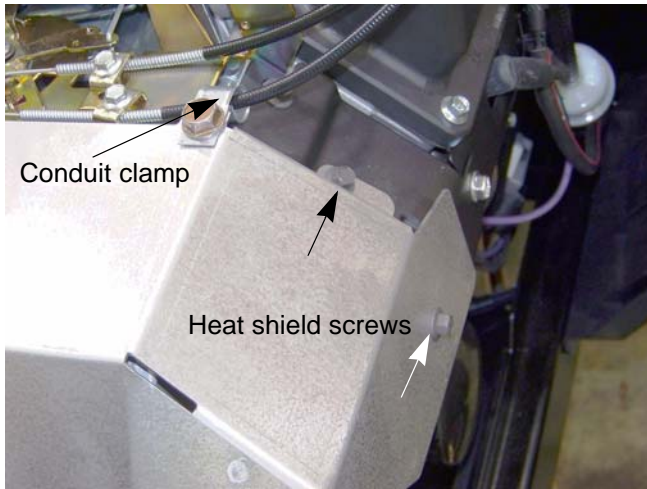

Figure 2.1
2. Remove the screw that holds the conduit clamp to the heat shield using a 1/2" wrench. See Figure 2.1.